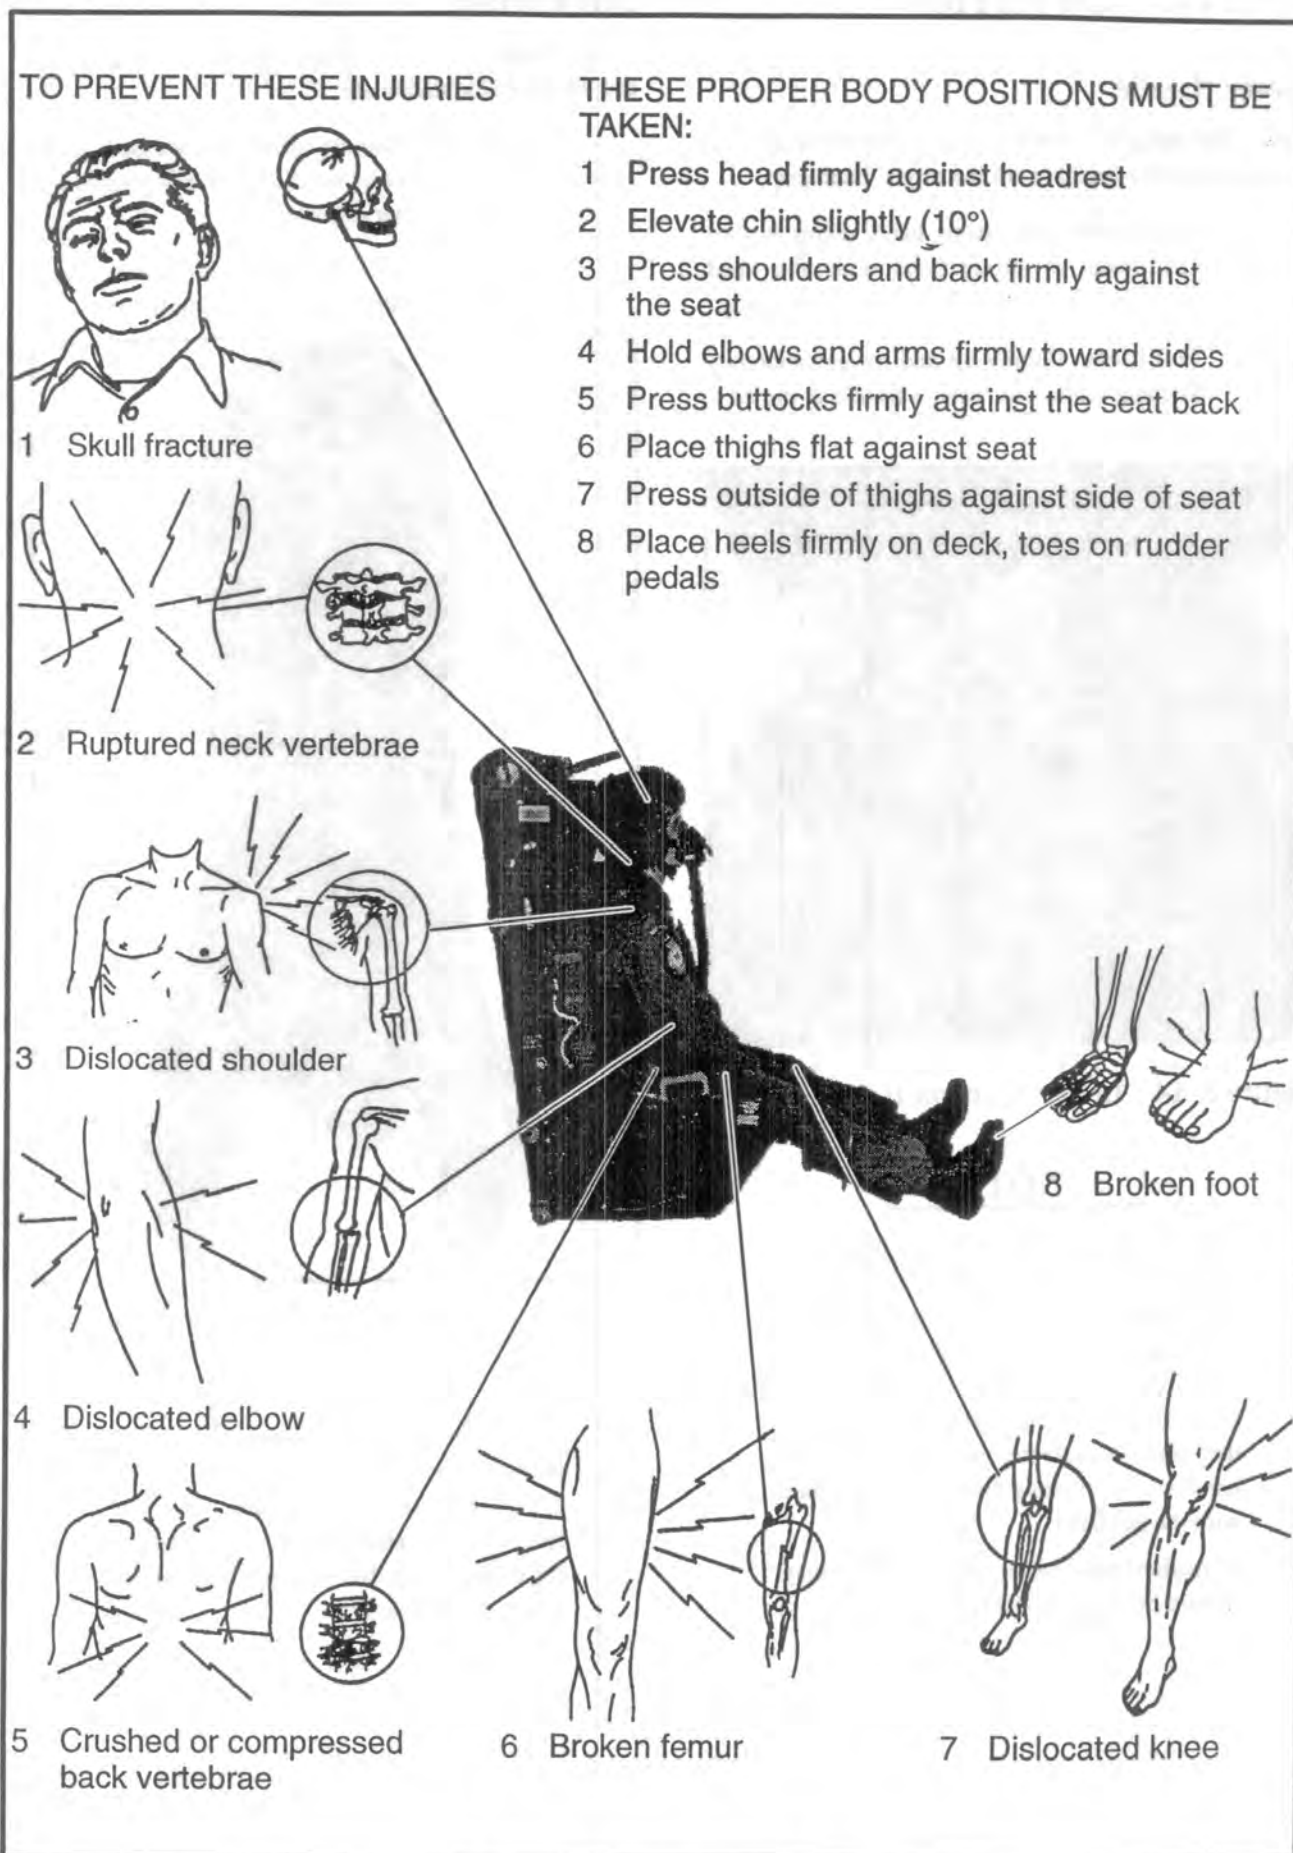

Figure 5-13 Ejection Injuries and Body Positioning
13. Assume proper ejection body position in order to reduce the risk of injury. Refer Figure 5-13.